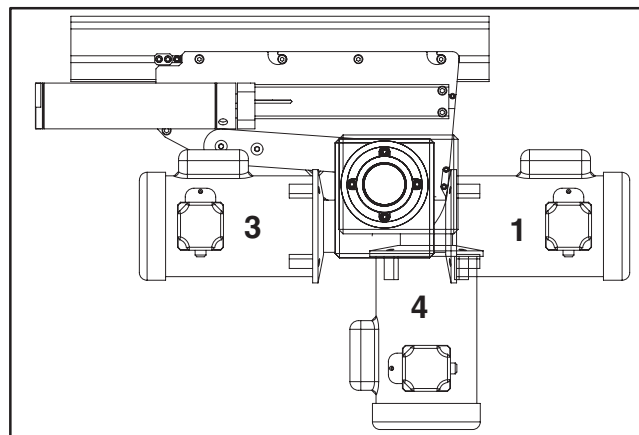

Figure 14
*Gearmotor may be operated in positions 1, 3 or 4 (**Figure 14**).*